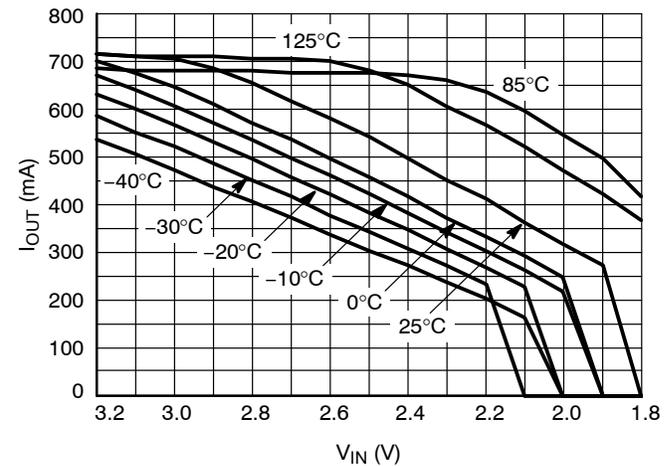

Figure 22. Output Current Capability for the 1.5 V Version
28. For output current capability for  $T_A < 0^{\circ}\text{C}$ , please refer to Figure 22.